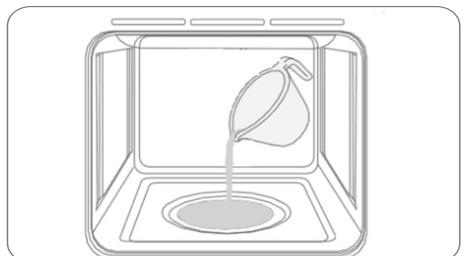

Fig. 4.7
3. Pour 40 ml of water into the base of the cavity as shown in Fig 4.7.